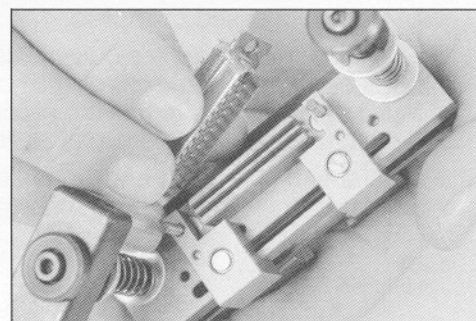

Fig. 4
4. Fix assembly head insert on the assembly head with two mounting screws provided with the tool. Adjust positioning pins on assembly head to match the connector mounting holes. (fig 4)